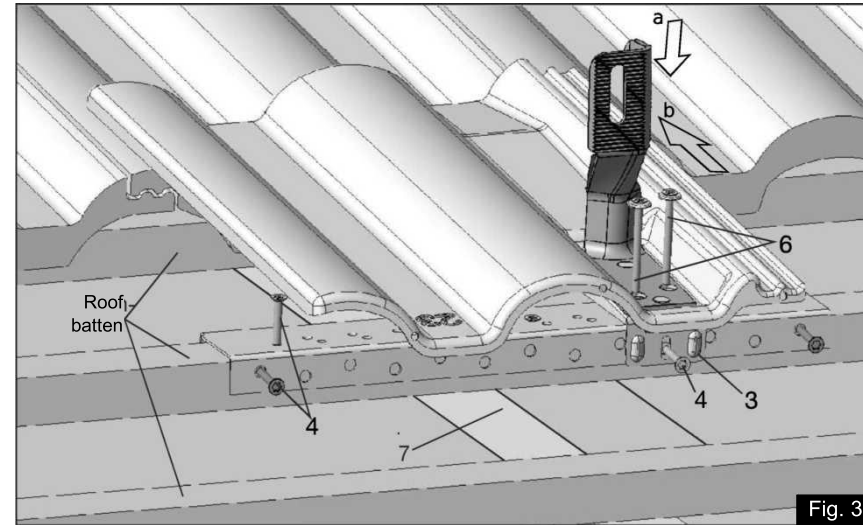

Fig. 3
- Install the roof-mounted module bracket with metal roofing plate, mount it with screws (6) and screw (4) and also fasten the reinforcement rail to the roof batten with screw (4) (can also be screwed in from above). (Fig. 3)